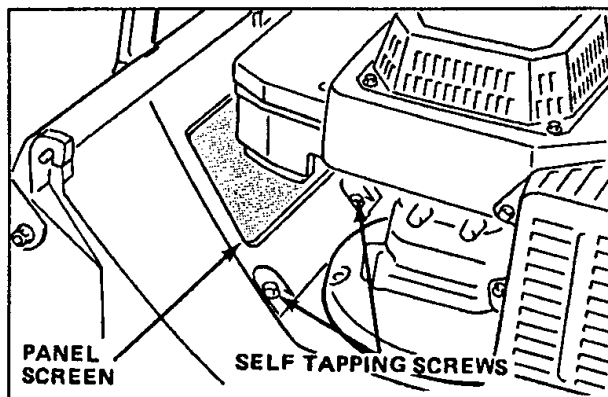

Figure 28
2. Remove (2) 1/2" self tapping screws securing panel screen to mower deck and remove panel screen (Fig. 28).